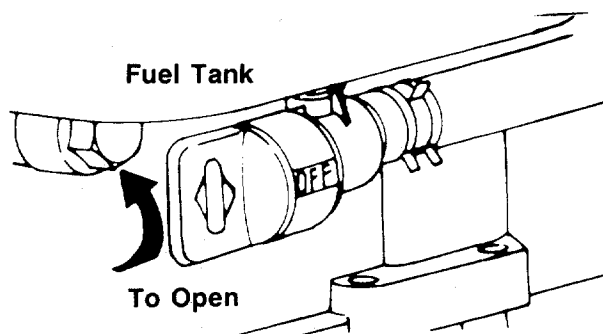

FIGURE 21.
2. Open fuel shut-off valve. See figure 21.